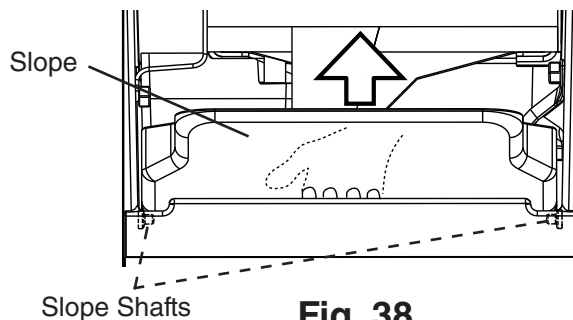

Fig. 38
- 2) Remove the slope from the ice storage bin by carefully bending it in the center and releasing it from the 2 slope shafts. See Fig. 38.